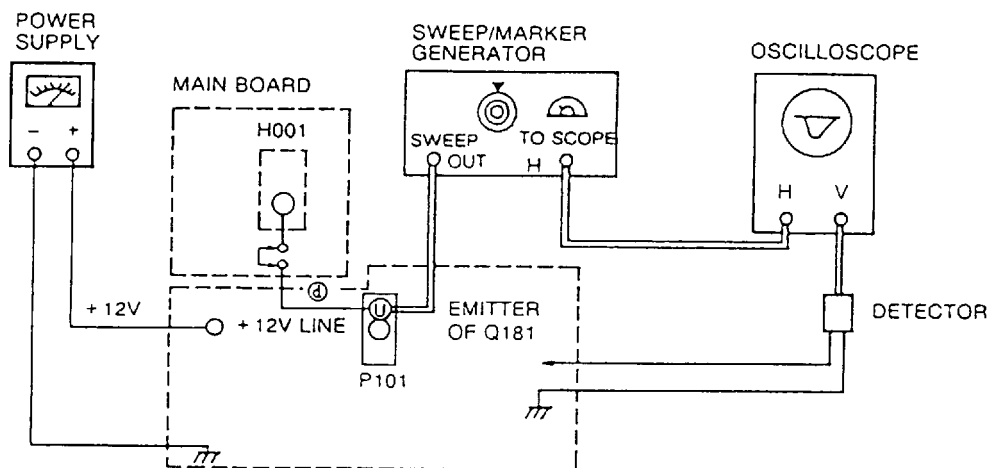

Figure 7. I-F TRAP Alignment
- GENERAL ..... Refer to Figure 7 for the equipment connection.
- SWEEP/MARKER GENERATOR..... Connect to the point ④ as shown in Figure 7 on the MAIN Board.